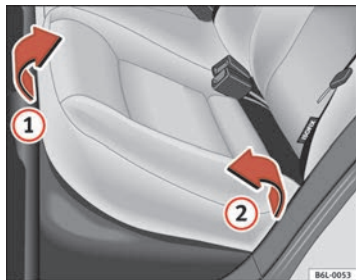
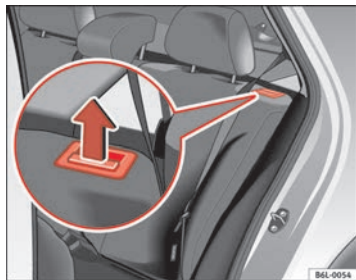

Fig. 69 Folding up the rear seat cushion
Fig. 70 Button for unlocking the rear backrest
- Pull the front edge of the seat cushion ⇒ fig. 69 ① upwards in the direction of the arrow.
- Lift the cushion ② forwards in the direction of the arrow.
- Pull the release button ⇒ fig. 70 in the direction of the arrow and fold the backrest forwards